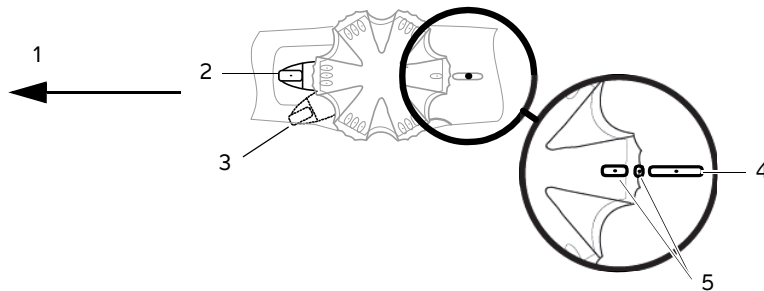

Figure 2-6 Tip deflection brake operation
The brake for the anterior/posterior deflection is a handle under the deflection wheel (see Figure 2-6). There is no brake for the right/left deflection.
- ▶ To prevent damage to the patient’s esophagus when inserting or withdrawing the transducer, the control wheel must be in the freely moving, neutral, and unlocked state. See **Figure 2-6** on page 2-9.